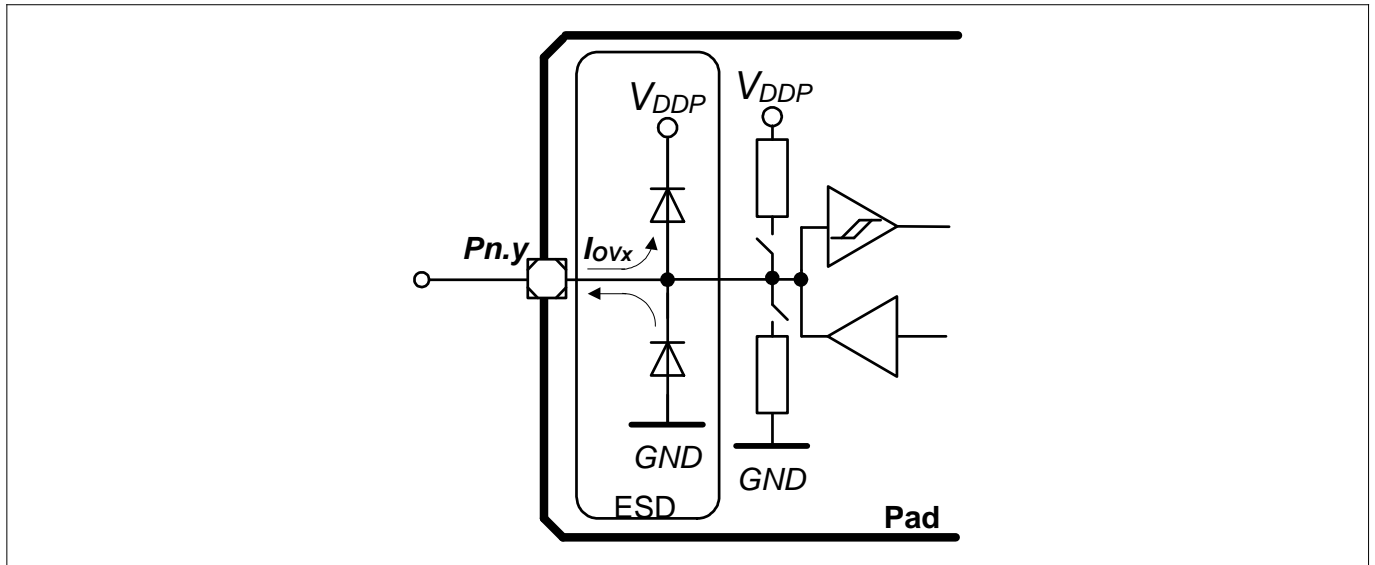

Figure 9 Input Overload Current via ESD structures
**Figure 9** shows the path of the input currents during overload via the ESD protection structures. The diodes against  $V_{DDP}$  and ground are a simplified representation of these ESD protection structures.